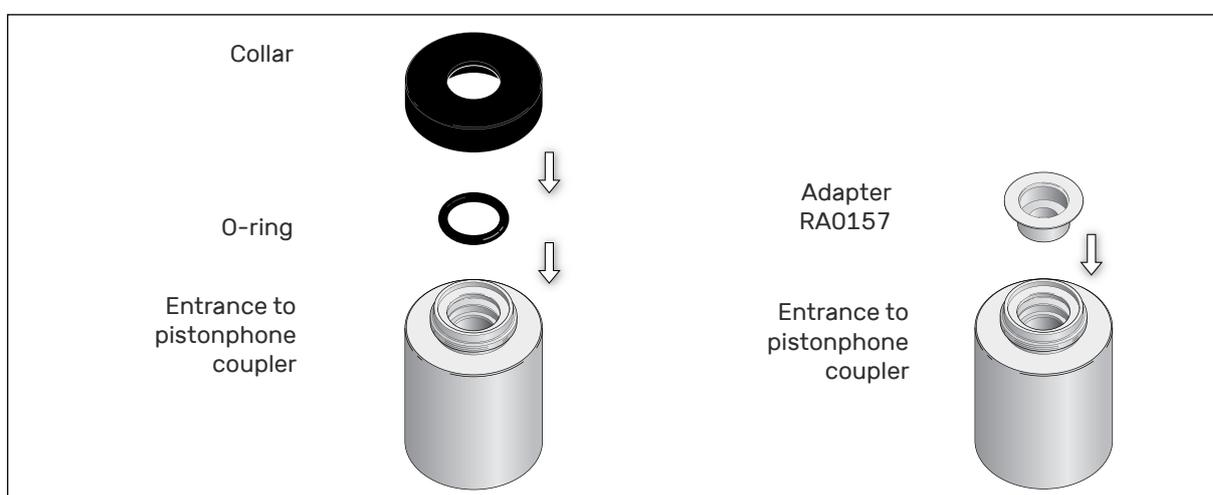

Fig. 55. Fitting the Adapter RA0157 to the pistonphone.
- An adapter (RA0157) for use with the pistonphone (required for setups based on the RA0045 Ear Simulator according to IEC 60318-4 – see Fig. 55).
1. Remove the pistonphone collar, and remove the O-ring (Fig. 55, left).
2. Push the Adapter RA0157 all the way into the coupler entrance (Fig. 55, right).
Now that the microphone set - still mounted on the microphone holder - is no longer fixed to KEMAR's ear holder plate, it is possible to calibrate the 1/2" microphone using a pistonphone fitted with coupler, O-ring and collar (shown in the left part of Fig. 55 on page 69) for 1/2" microphone calibration. Refer to the manual for your pistonphone for further instructions.